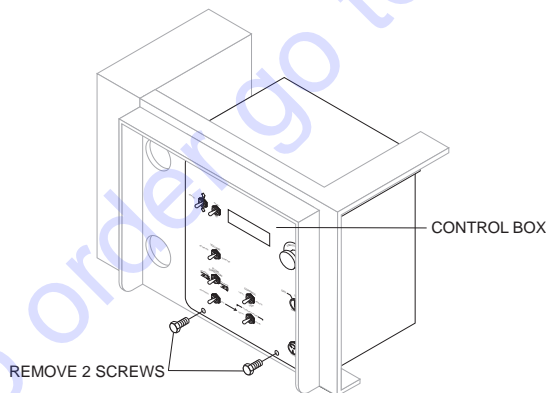

Figure 35. Removing the Control Box
1. Remove the two screws (Figure 35) on the **digital control panel** that secure the front panel to the control box.